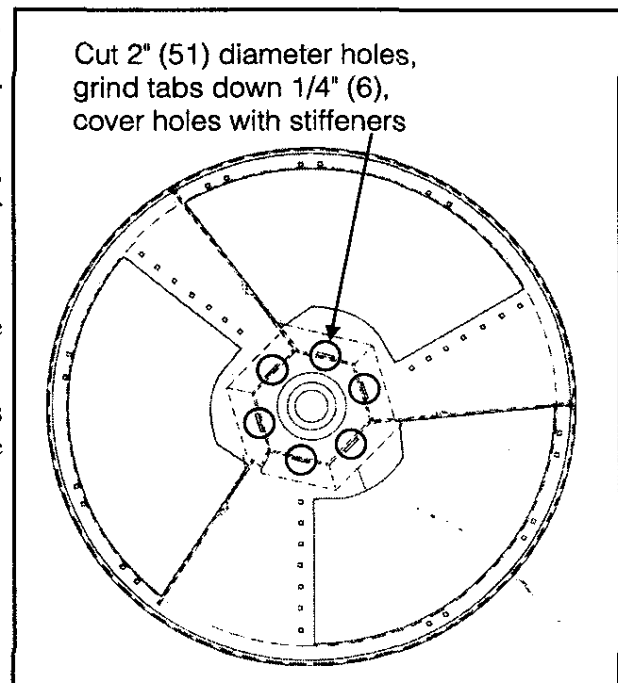
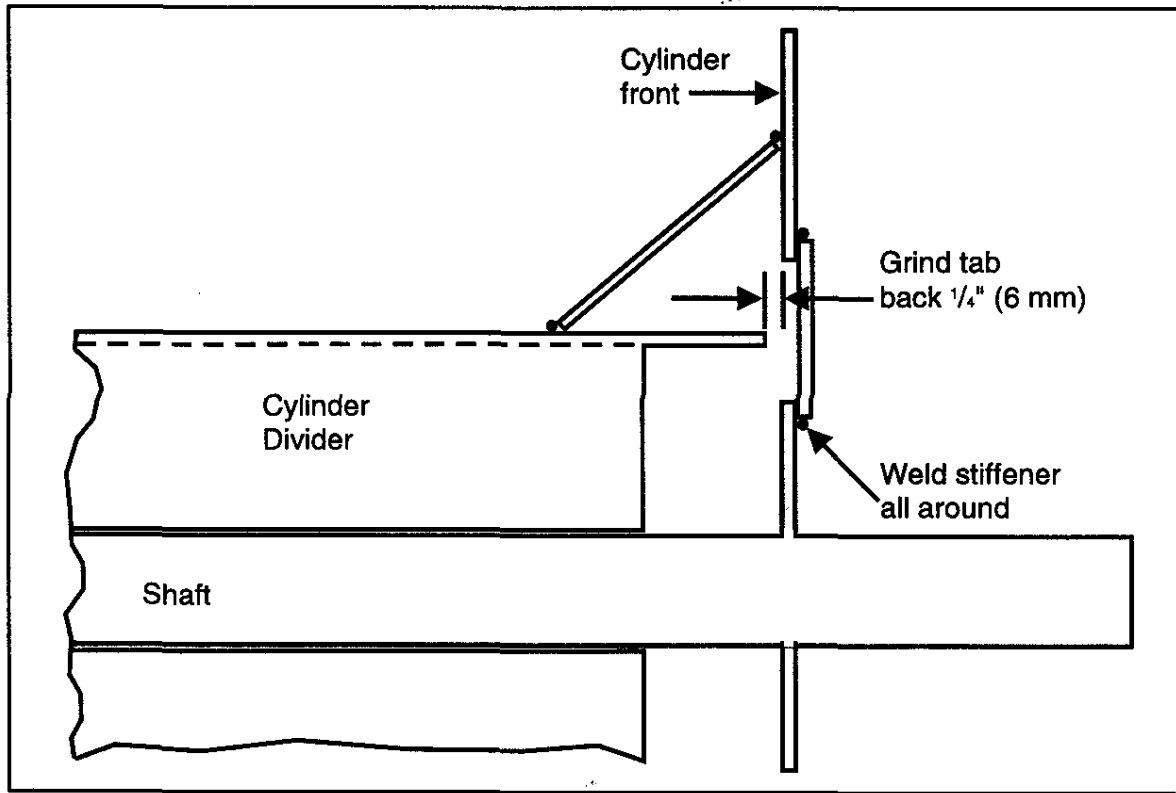

FIGURE 1: Identifying Cylinder Tabs (three pocket cylinder shown)
FIGURE 2: Cylinder Repair Details
1. Locate the six cylinder tabs shown in FIGURE 1.
2. Cut out a 2" (51) circular portion of the cylinder surrounding each tab.
3. Grind each tab until 1/4" (6) clearance exists between the cylinder front and the cylinder divider as shown in FIGURE 2.